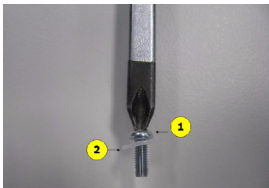

Figure 2.2 Machine screw with plastic washer
2. Place and align the metal plate over the two metal standoffs. Place the machine screw and the flat plastic washer on the two allotted holes as shown in Figure 2.2.